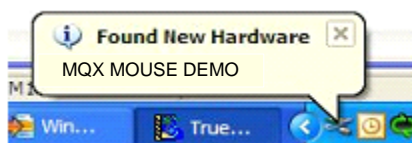

Figure B-1. Find New Hardware callout
1. Connect the hardware to the Windows host computer. As soon as you turn on the device, the HID device gets installed onto the Windows host computer. You should see the callout, as shown in Figure B-1, on the right bottom corner of your screen. At this point, the windows installs the host driver for the device.